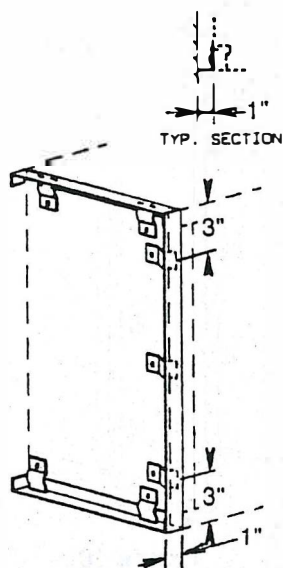

Figure 3
3. Wall Case Filler (1" wide). Figure 3 & 4.